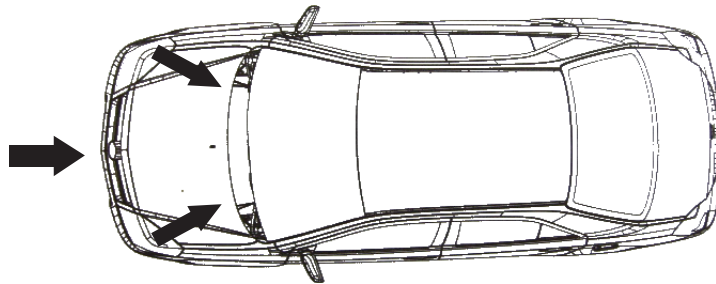

Fig. 5-13 Front Center Collision
1. Front Center Collision (Fig. 5-13)